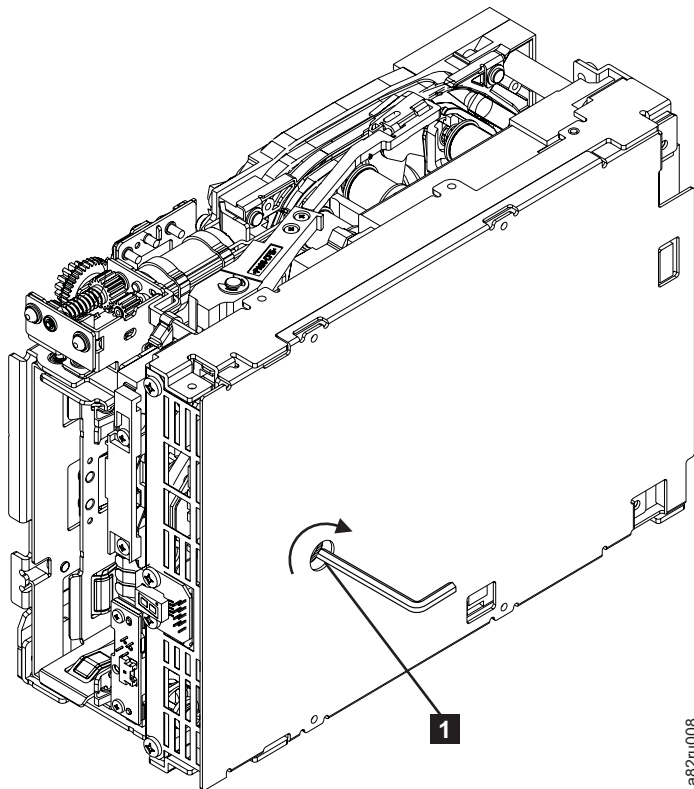

Figure 169. Using hex wrench to rewind tape into cartridge
6. From the bottom of the drive, locate the access hole (**1** in Figure 169) in the bottom cover. Insert a 2.5 mm offset hex wrench through the bottom cover access hole and into the reel motor axle. begin spooling tape back into the cartridge by turning the hex wrench clockwise.